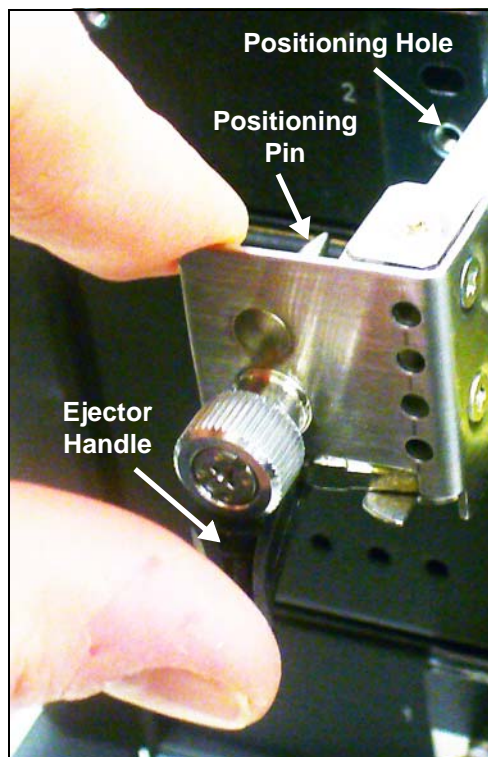

Figure C.30 - G10 IIC Positioning Pin Alignment
5. Position your thumbs and forefingers as shown in **Figure C.30** and slide the blade into the chassis until the positioning pins are inserted in the positioning holes in the shelf.